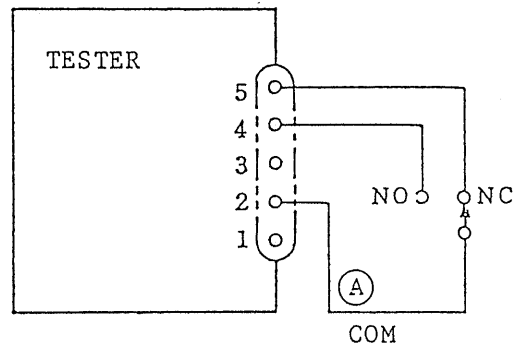

Figure 4.4
- ② In the case of the setup shown in Figure 4.4, the test voltage is turned on when the switch is thrown to the NO Position, and instrument is forcefully reset when the switch is returned to the NC position.